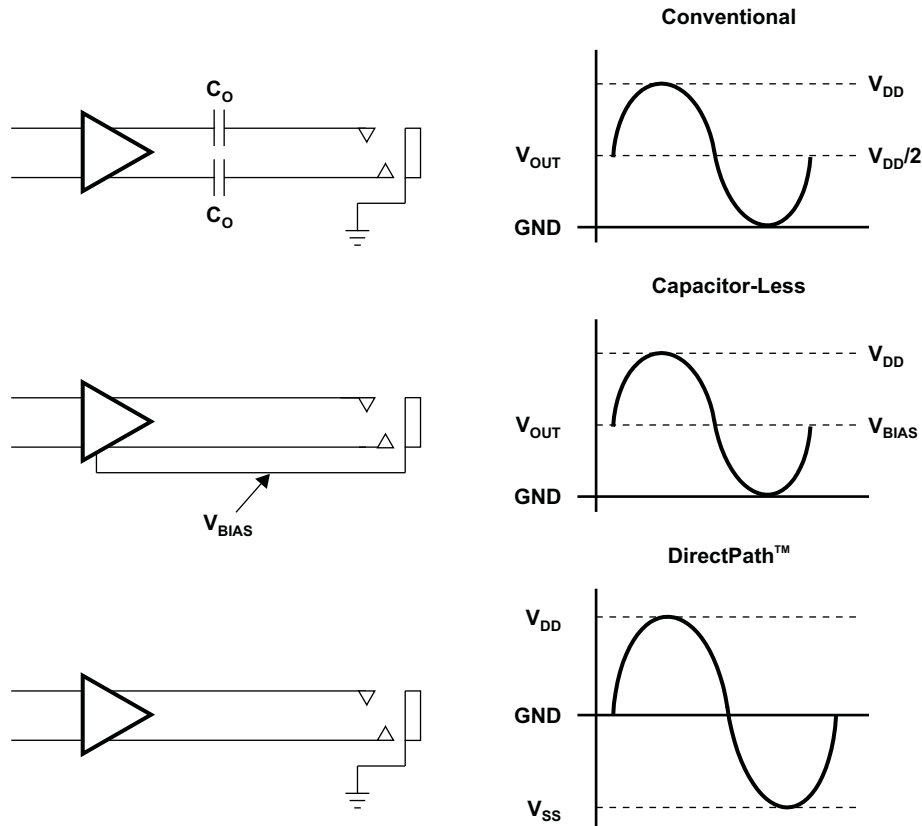

Figure 37. Amplifier Applications
The headphone amplifier has a fixed gain of  $-1.5$  V/V. It uses single-ended (SE) inputs. The DirectPath™ amplifier architecture operates from a single supply but makes use of an internal charge pump to provide a negative voltage rail. Combining the user-provided positive rail and the negative rail generated by the IC, the device operates in what is effectively a split supply mode. The output voltages are now centered at zero volts with the capability to swing to the positive rail or negative rail. The DirectPath™ amplifier requires no output dc blocking capacitors and does not place any voltage on the sleeve. The block diagram and waveform of Figure 37 illustrate the ground-referenced headphone architecture. This is the architecture of the TPA6047A4.
Single-supply headphone amplifiers typically require dc-blocking capacitors. The capacitors are required because most headphone amplifiers have a dc bias on the outputs pin. If the dc bias is not removed, the output signal is severely clipped, and large amounts of dc current rush through the headphones, potentially damaging them. The left-side drawing in Figure 37 illustrates the conventional headphone amplifier connection to the headphone jack and output signal.
Two different headphone amplifier applications are available that allow for the removal of the output dc blocking capacitors. The capacitor-less amplifier architecture is implemented in the same manner as the conventional amplifier with the exception of the headphone jack shield pin. This amplifier provides a reference voltage, which is connected to the headphone jack shield pin. This is the voltage on which the audio output signals are centered. This voltage reference is half of the amplifier power supply to allow symmetrical swing of the output voltages. Do not connect the shield to any GND reference, or large currents will result. The scenario can happen if, for example, an accessory other than a floating GND headphone is plugged into the headphone connector. See the second block diagram and waveform in Figure 37.